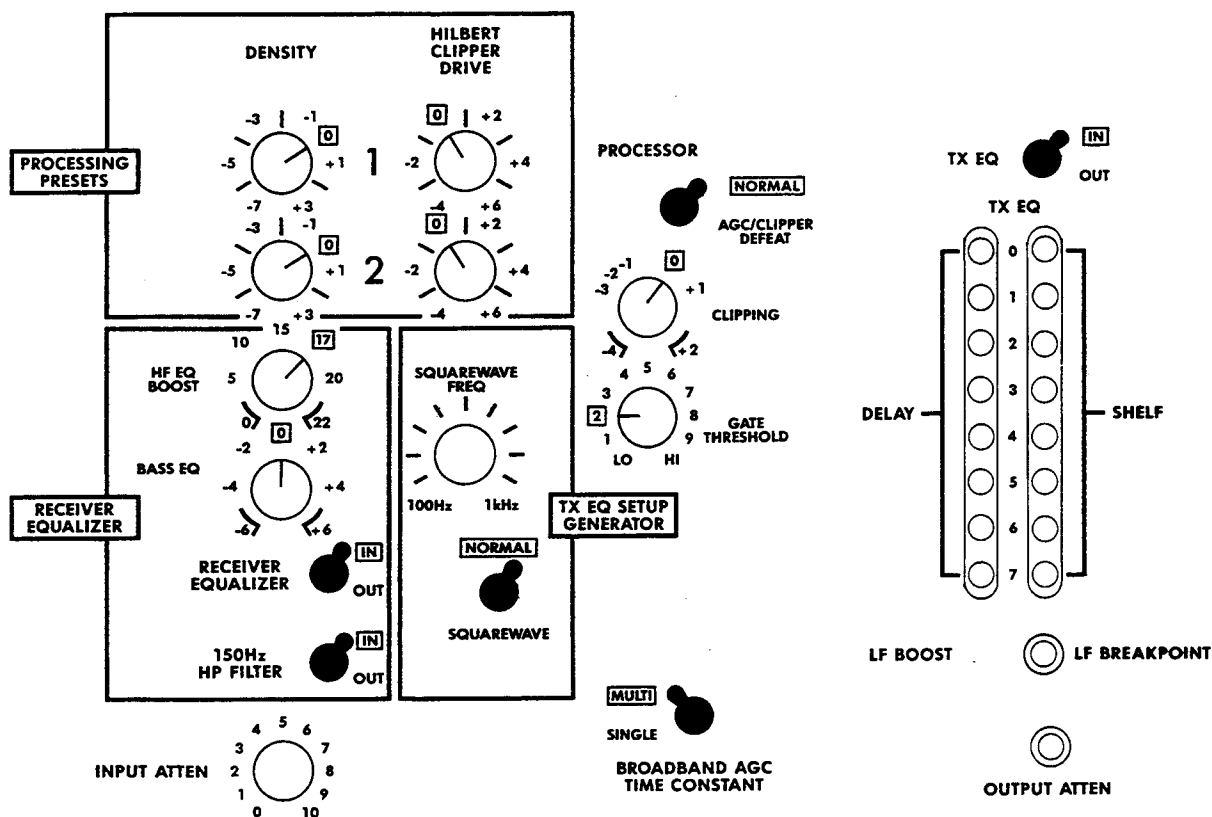

Fig. 2-8: Control Settings for step 12-B
- ☐ Set the 9105A's controls as shown in Fig. 2-8.